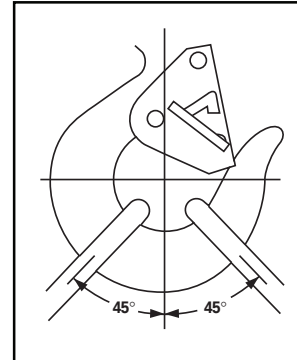

Figure 5
- When placing two (2) sling legs in hook, make sure the angle from the vertical to the outermost leg is not greater than 45°, and the included angle between the legs does not exceed 90° (See Figure 5).
*For angles greater than 90°, or more than two (2) legs, a master link or bolt-type anchor shackle should be used to attach the legs of the sling to the hook.